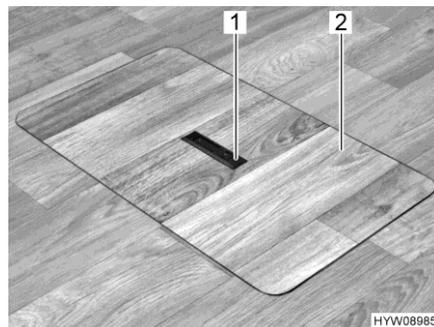
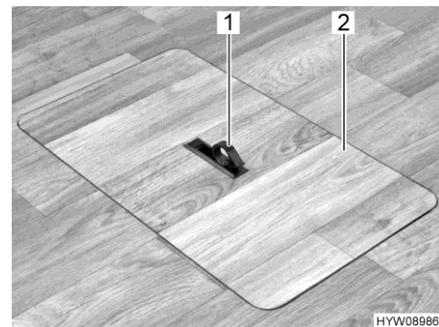

Fig. 44 Floor storage compartment cover (handle recessed)
Fig. 45 Floor storage compartment cover (handle swung out)
- Push one side of the grip plate (Fig. 44,1) downwards. The handle (Fig. 45,1) swivels upwards.
- Remove the cover (Fig. 45,2) upwards.
- Insert the cover (Fig. 45,2) in the frame on the floor.